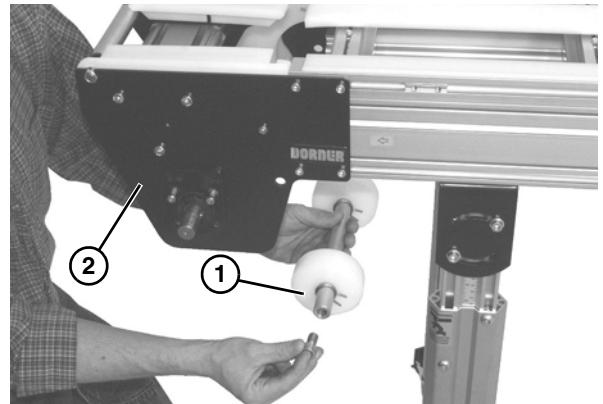

Figure 32
3. Lower roller assembly (Figure 32, item 1) from drive tail assembly (Figure 32, item 2).